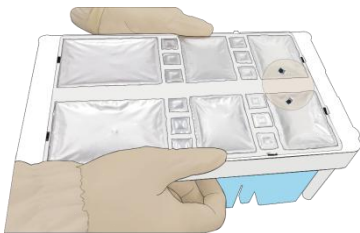

Figure 7-5: Mix reagents after loading
- Place the cartridge horizontally on the table and hold both sides of the cartridge with both hands (see Figure 7-5). Shake it clockwise 10-20 times, and then counterclockwise 10-20 times, until the reagent color in well No.1 is uniform. Make sure that you see the vortex to ensure reagents are fully mixed. The SE50 or SE100 sequencing cartridge is now ready for use.
- Place the cartridge horizontally on the table and hold both sides of the cartridge with both hands (see Figure7-5). Shake it clockwise 10–20 times, and then counterclockwise 10–20 times, until the reagent color in well No.1 is uniform. Make sure that you see the vortex to ensure reagents are fully mixed.
① **Note:**
- Place the cartridge horizontally on the table and hold both sides of the cartridge with both hands (see Figure7-5). Shake it clockwise 10-20 times, and then counterclockwise 10-20 times, until the reagent color in well No.1 is uniform. Make sure that you see the vortex to ensure reagents are fully mixed.